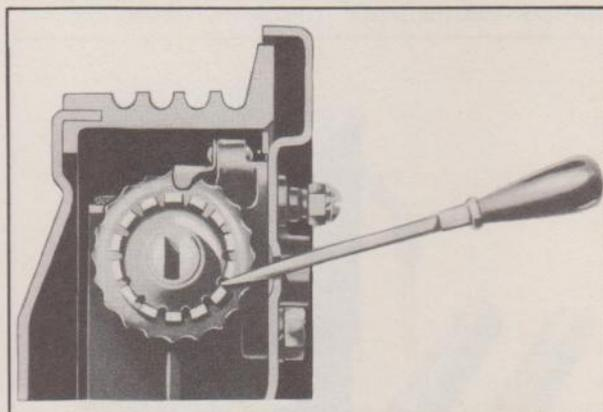

Fig. 12—Adjusting Brakes Through Slot in Flange Plate
- Remove the adjusting hole covers and insert a screwdriver through the adjusting hole and engage the teeth on the adjusting cover of the wheel cylinder. Fig. 12.